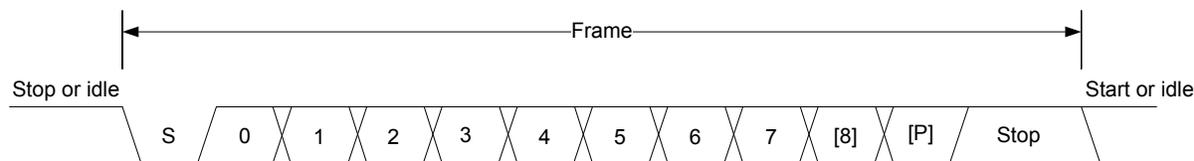

Figure 19.2. LEUART Asynchronous Frame Format
The frame format used by the LEUART consists of a set of data bits in addition to bits for synchronization and optionally a parity bit for error checking. A frame starts with one start-bit (S), where the line is driven low for one bit-period. This signals the start of a frame, and is used for synchronization. Following the start bit are 8 or 9 data bits and an optional parity bit. The data is transmitted with the least significant bit first. Finally, a number of stop-bits, where the line is driven high, end the frame. The frame format is shown in Figure 19.2 LEUART Asynchronous Frame Format on page 641.